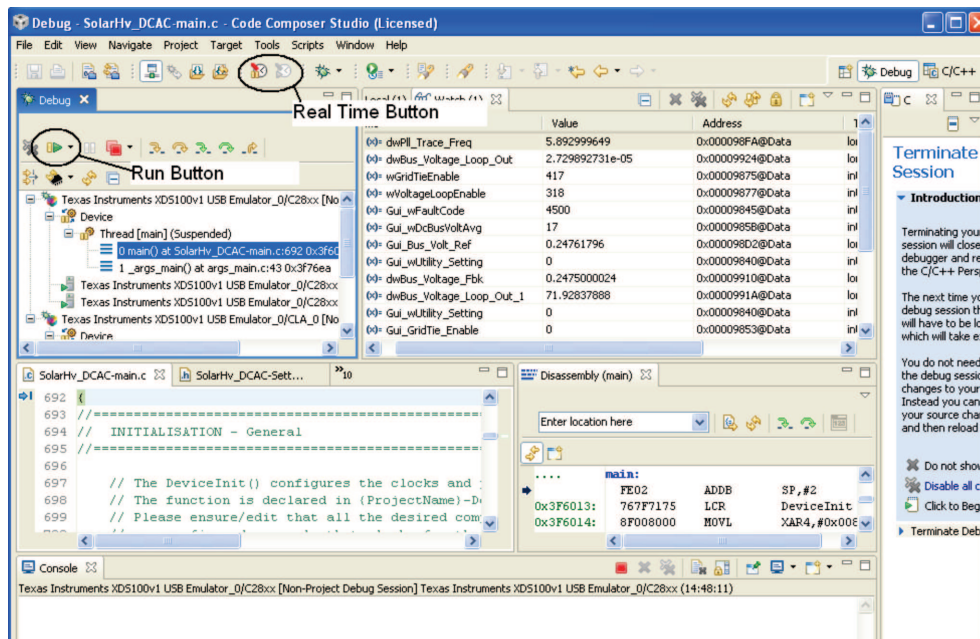

Figure 16. Debug Active Project
10. Figure 16 appears when the code is loaded successfully.